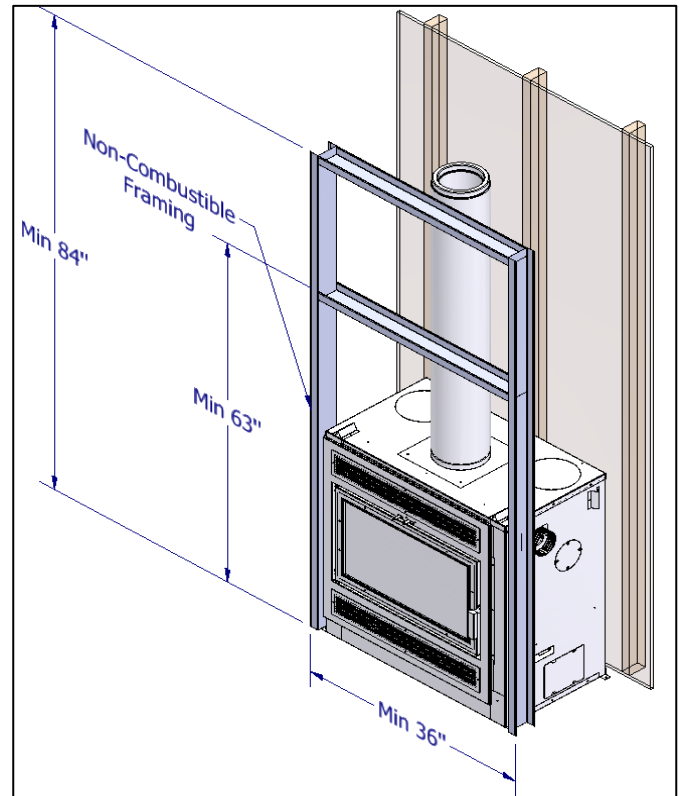

Figure 3-19: Minimum Elegance 36 Framing Dimensions
The Elegance 36 can be placed directly onto or against normal, combustible construction materials such as lumber, plywood, millboard, particleboard, drywall and decorative wood paneling. The fireplace should NOT be placed directly against or be in contact with an insulation material. A portion of the framing on the face of the chase must be constructed with nominal 2" x 3" or 2" X 4" metal studs and the remainder can be constructed with nominal 2" X 3" or 2" X 4" lumber. Refer to Figure 3-19 for framing design. The framing must be nailed or screwed onto the floor and to the ceiling.
**CAUTION:** Respect the framing design outlined in Figure 3-19 as well as the chimney manufacturer's clearances to combustibles.